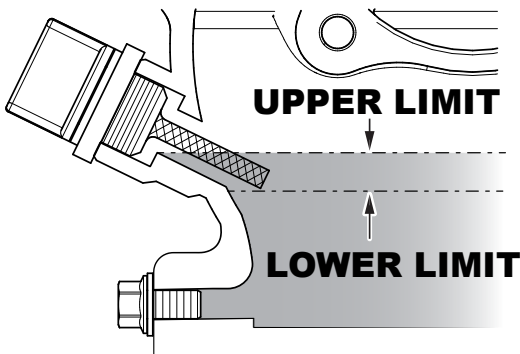

Figure 28. Engine Oil Level
4. If the oil level is low (Figure 28), fill to the edge of the oil filler hole with the recommended oil type listed in Table 5. Refer to Table 2 for maximum engine oil capacity.